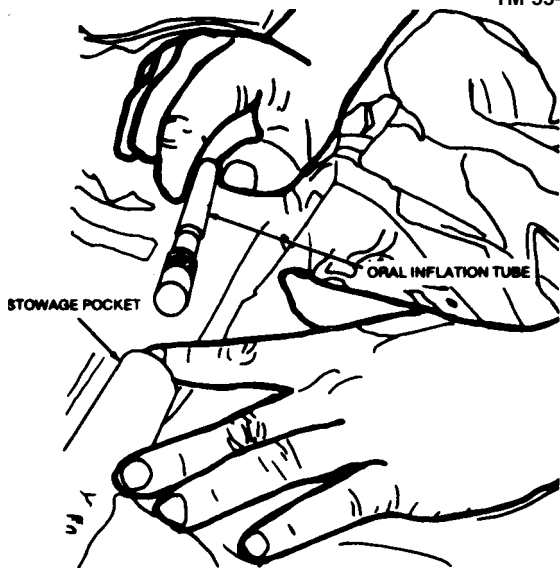

Figure 2-5. Stowing the oral inflation tuba in the stowage pocket.
(6) After oral inflation of a life raft has been completed, insure the oral inflation tube locking nut is rotated counterclockwise to a point at which the nut is snug against the mouthpiece which will prevent the raft from being inadvertently deflated. Stow the oral inflation tube in the adjacent oral inflation tube stowage pocket (fig. 2-5).